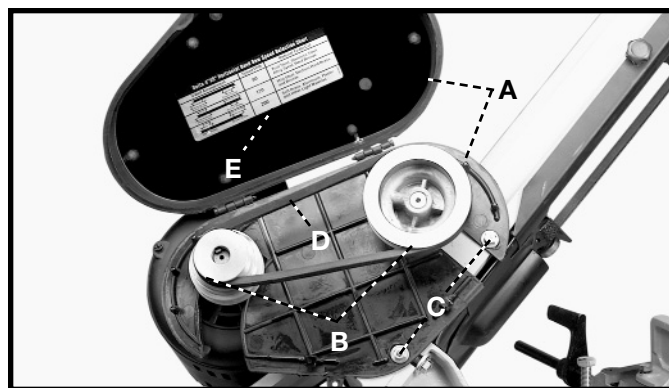

Fig. 7
Open the belt and pulley guard (A) Fig. 7, and position the bottom half of the guard assembly behind the pulleys (B) as shown. Line up the two holes in the bottom of the guard with the two threaded holes in the casting. **NOTE: DO NOT COMPLETELY TIGHTEN THE PULLEY GUARD TO THE CASTING AT THIS TIME.** Place a 1/4" flat washer onto a 1/4-20x1/2" hex head screw and insert screw through hole in pulley guard and thread screw into the tapped hole in the casting. Repeat this process for the remaining hole. Raise the motor and assemble the belt (D) Fig. 7, to the desired steps of the two pulleys then release the motor. A speed selection chart (E) is located on the inside of the guard cover. When the belt is tensioned, tighten screws (C).